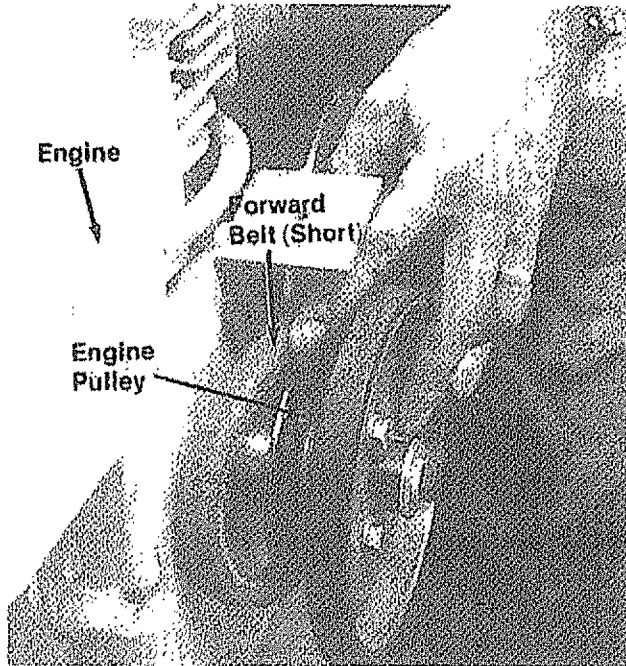

FIGURE 32.
2. To remove the front belt (short) pull gear shift lever back to reverse (R) position. Slip the belt off engine pulley towards the engine, See figure 32.